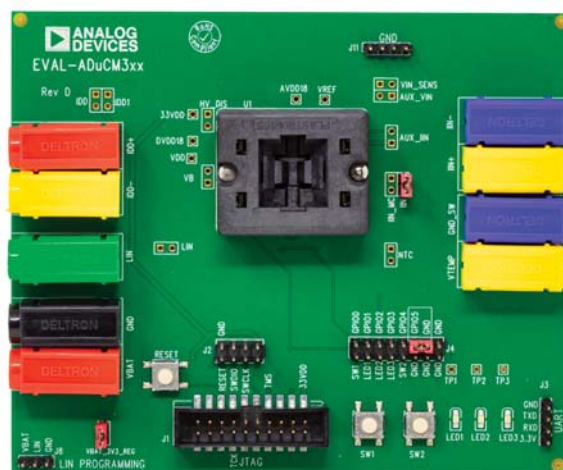

Figure 1.
1. Ensure proper orientation and insert an ADuCM300 device. Note that Pin 1 of the device is indicated by a dot in the corner. The dot on the device must be oriented with the dot on the socket, as shown in Figure 1.
4. Ensure that the board jumpers are in position, as shown in Figure 1.